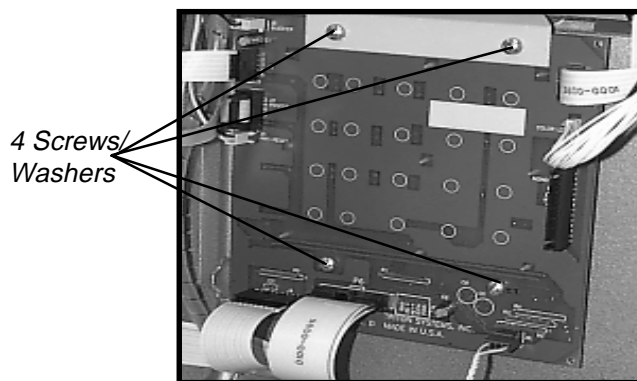

Figure 1. Main Keypad.
1. Unlock and open the Top Enclosure of the Cash Dispenser. Turn off the AC power to the terminal by pushing the AC power switch to the OFF (0) position.
2. The Main Keypad is located just below the display mounting bracket on the back of the Front Panel (See Figure 1). It's mounted directly to the back of the front panel with 4 screws and washers.